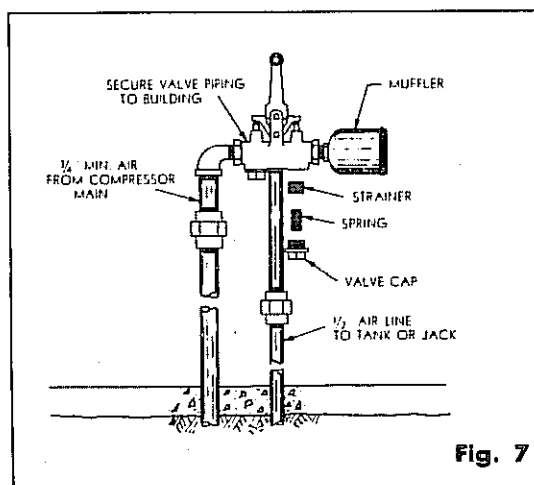

Fig. 7
22. Set yoke on plunger, connect with (2) $\frac{7}{8}$ " bolts and attach non-rotator to keep plunger from rotating.
25. "A" series: To test piping, raise lift to full rise and hold air valve open for one (1) minute to charge system to maximum pressure. Set air valve in neutral position for at least 5 minutes. Check all joints.
27. Remove and clean air valve strainers of all foreign matter, see Fig. 7. Retighten caps. Do not use pipe compound on air valve caps.